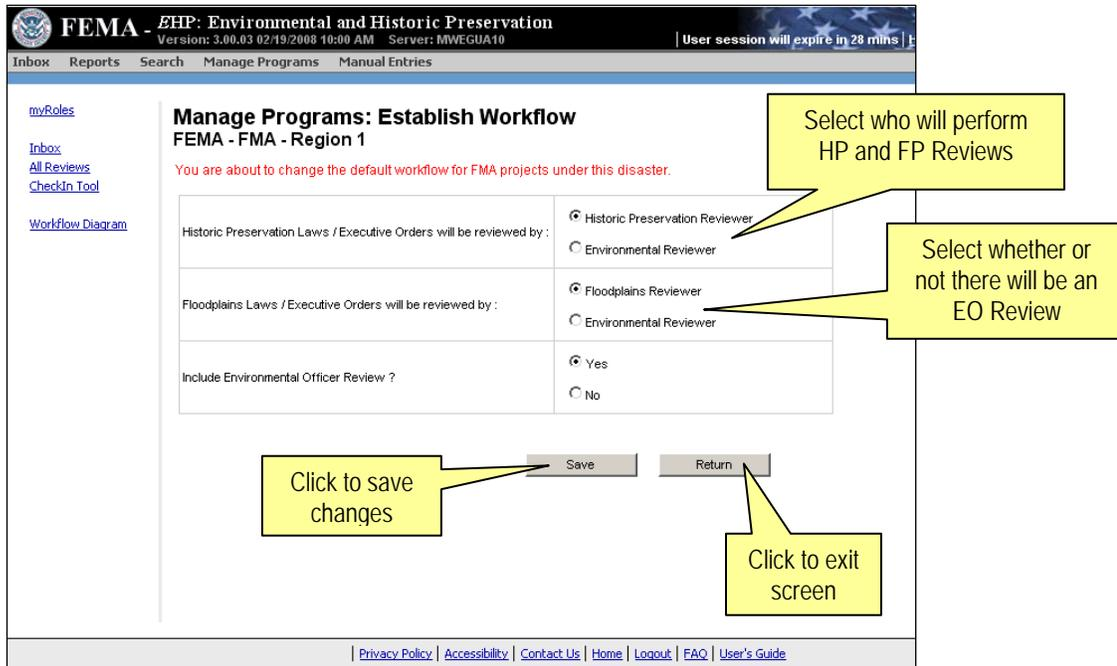

Figure 6.7: Manage Programs: Establish Workflow, Assign Reviewer Roles
- On the *Manage Program: Establish Workflow* screen, use the radio buttons to set the Workflow (Figure 6.7).